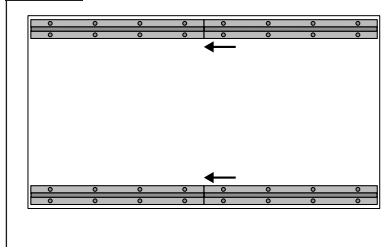

Fig. 5b
- Place router carriage ski bar halfway into the rear rail groove and halfway in the second back rail groove. – (Fig. 5b)